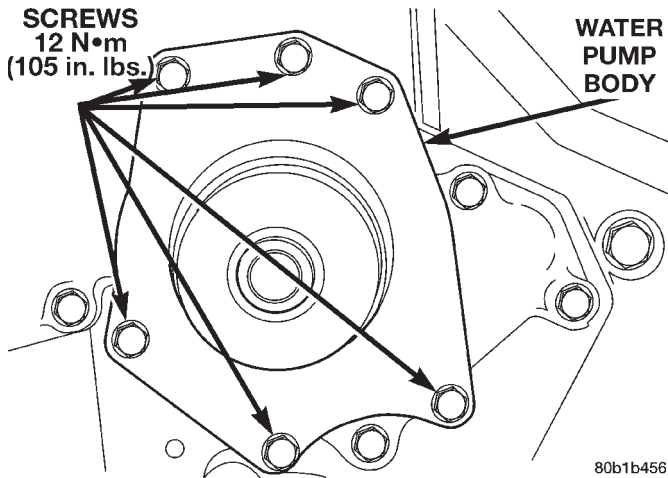

Fig. 15 Water Pump—3.5L Engine
(1) Drain cooling system. Refer to Cooling System Draining in this section.
(2) The water pump is driven by the timing belt. Refer to Timing Belt Removal in Group 9, Engine for component removal to provide access to water pump.
(3) Remove water pump mounting bolts (Fig. 15).
(4) Remove water pump body from engine (Fig. 15).